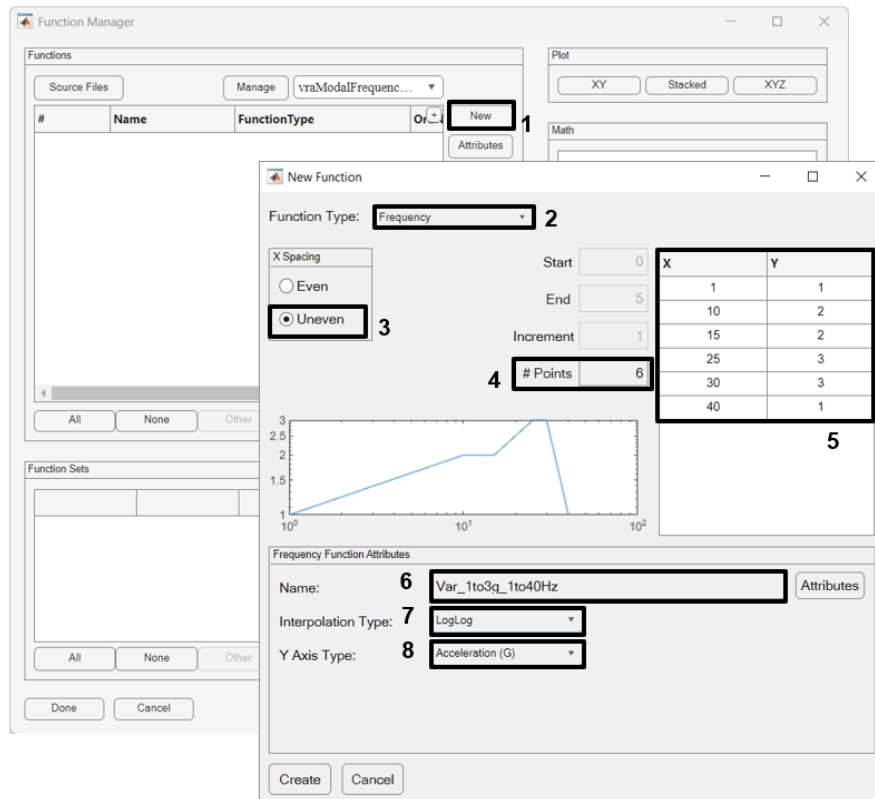

Figure 4-39. Create the acceleration PSD that will be used to excite the Isat.
2. In the Function Manager, click **New** to bring up the *New Function* dialog. As shown in Figure 4-39, set the *Function Type* to *PSD*, the *X Spacing* to *Uneven*, and the number of points to 6. Key in the frequencies and amplitudes as shown. Set the *Y-Axis Type* to *Acceleration (EU)* so the Y-values will be in engineering units, in this case  $(\text{in/s}^2)^2/\text{Hz}$ , rather than  $\text{g}^2/\text{Hz}$ . The *Interpolation Type* must be *LogLog*. As always, give the function a name that will help you recognize it when you want it for later use.